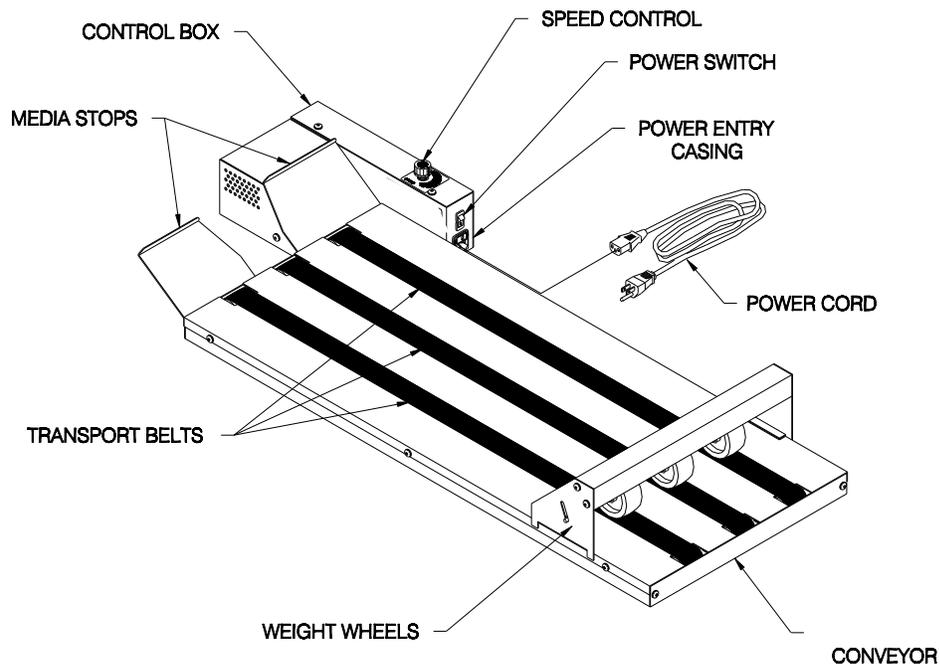

Figure 4.2 -- FD 260-20 with Weight Wheels
7. Place the WEIGHT WHEELS on the CONVEYOR as shown in **Figure 4.2.** The TABS at the bottom of each SIDE FRAME fit over the sides of the CONVEYOR, and the MAGNETS rest on the CONVEYOR.
8. Make sure the MAGNETS are flat on the CONVEYOR. Tighten all 4 BUTTONHEAD SCREWS. (Refer to **Figure 4.2.**)